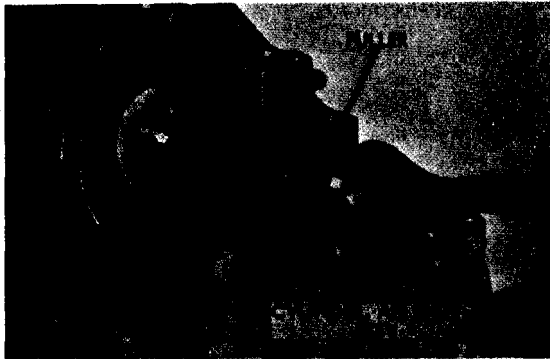

Figure 204. Removing input shaft companion flange
(1) In order to provide clearance for the removal of the front output shaft and case assembly, the input shaft companion flange (fig. 204) must first be removed. Unscrew slotted nut and remove companion flange with suitable puller.